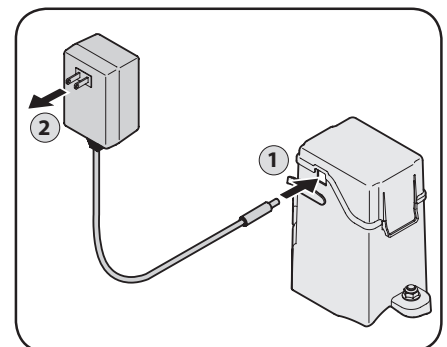

Figure 4-9
- Unhinge the cover seal and plug the battery charger into the port on the side of the battery housing. See Figure 4-9.